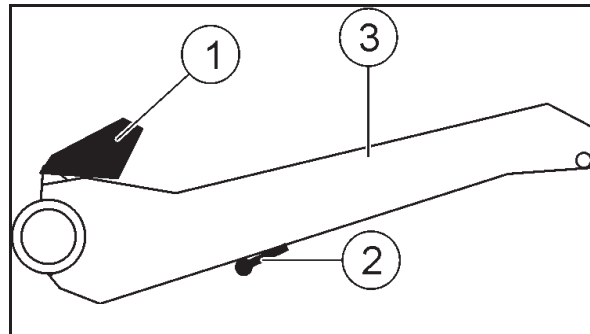

Fig. 137
When opening the protective device (1), the transport support (2) is automatically retracted (Fig. 137).